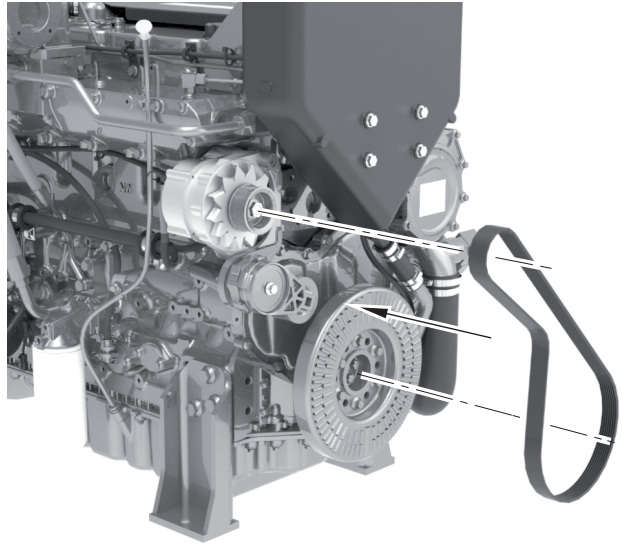

Figure 14
3. Install the new belt correctly, as shown in figure 14. Be sure that the belt is fully seated on the pulleys. The correct tension will automatically be applied when the ratchet is removed.